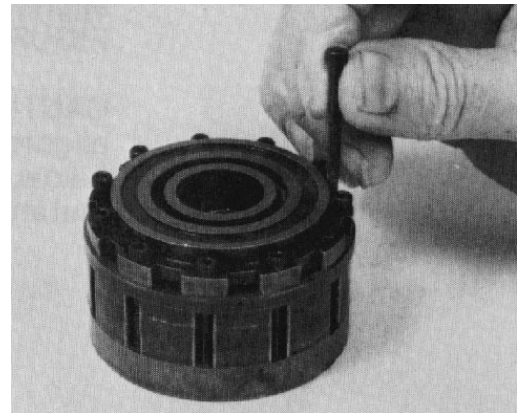

Figure 80
18. Screw the eleven hex socket head cap screws loosely into the metering package (Fig. 80).